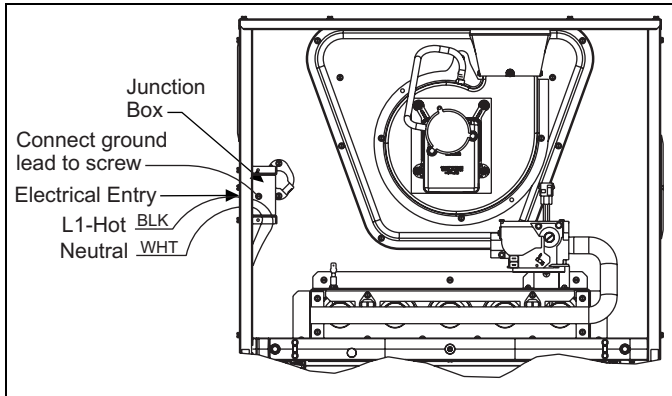

FIGURE 16: Electrical Wiring
2. Remove the screws retaining the wiring box cover. Route the power wiring through the opening in the unit into the junction box with a conduit connector or other proper connection. In the junction box there will be 3 wires, a Black Wire, a White Wire. Connect the power supply as shown on the unit-wiring label on the inside of the blower compartment door or the wiring schematic in this section. The black furnace lead must be connected to the L1 (hot) wire from the power supply. The white furnace screw must be connected to neutral. Connect the power supply ground to the green screw (equipment ground) An alternate wiring method is to use a field provided 2" (5.1 cm) x 4" (10.1 cm) box and cover on the outside of the furnace. Route the furnace leads into the box using a protective bushing where the wires pass through the furnace panel. After making the wiring connections replace the wiring box cover and screws. Refer to Figure 16.
3. The furnace's control system requires correct polarity of the power supply and a proper ground connection. Refer to Figure 16